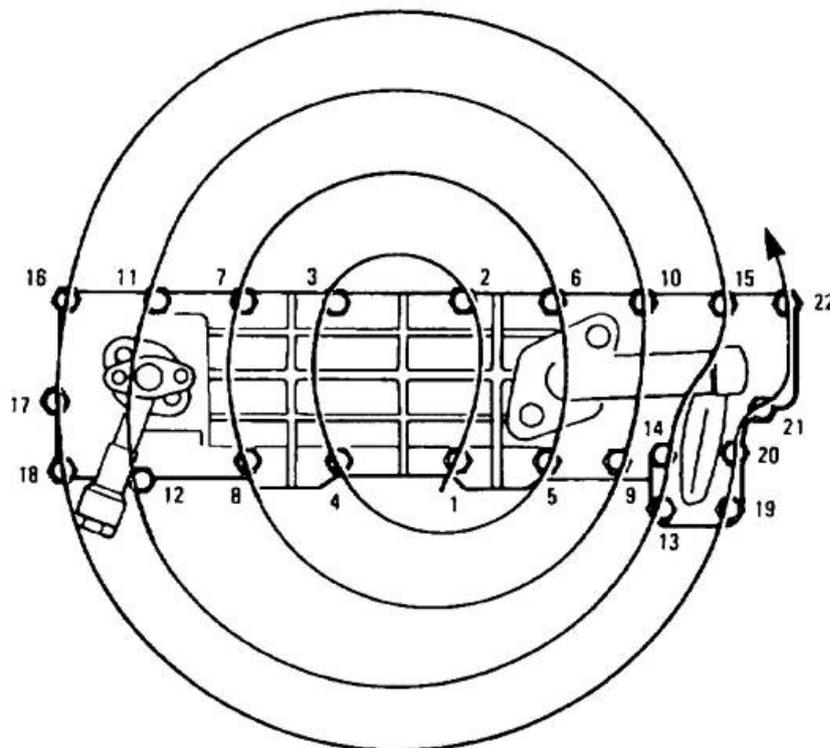

Figure 53 Oil Cooler – Bolt Tightening Sequence
- yy. Position a new gasket on the oil cooler cover and position the oil cooler on the engine block. Install and torque the retaining bolts to 21 to 30 N.m (15 to 22 lbf.ft) in the sequence shown (Figure 53).